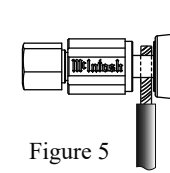

Figure 5
2. Connect the Loudspeaker hookup cables to the ML1 Negative (-) Input Terminal and Positive (+) Input Terminal. Insert the spade lug connector or prepared section of the cable end into the Input Terminal side access hole, and tighten the Input Terminal cap until the cable is firmly clamped into the terminals so the lugs or wire cannot slip out. Refer to figures 5 and 6.